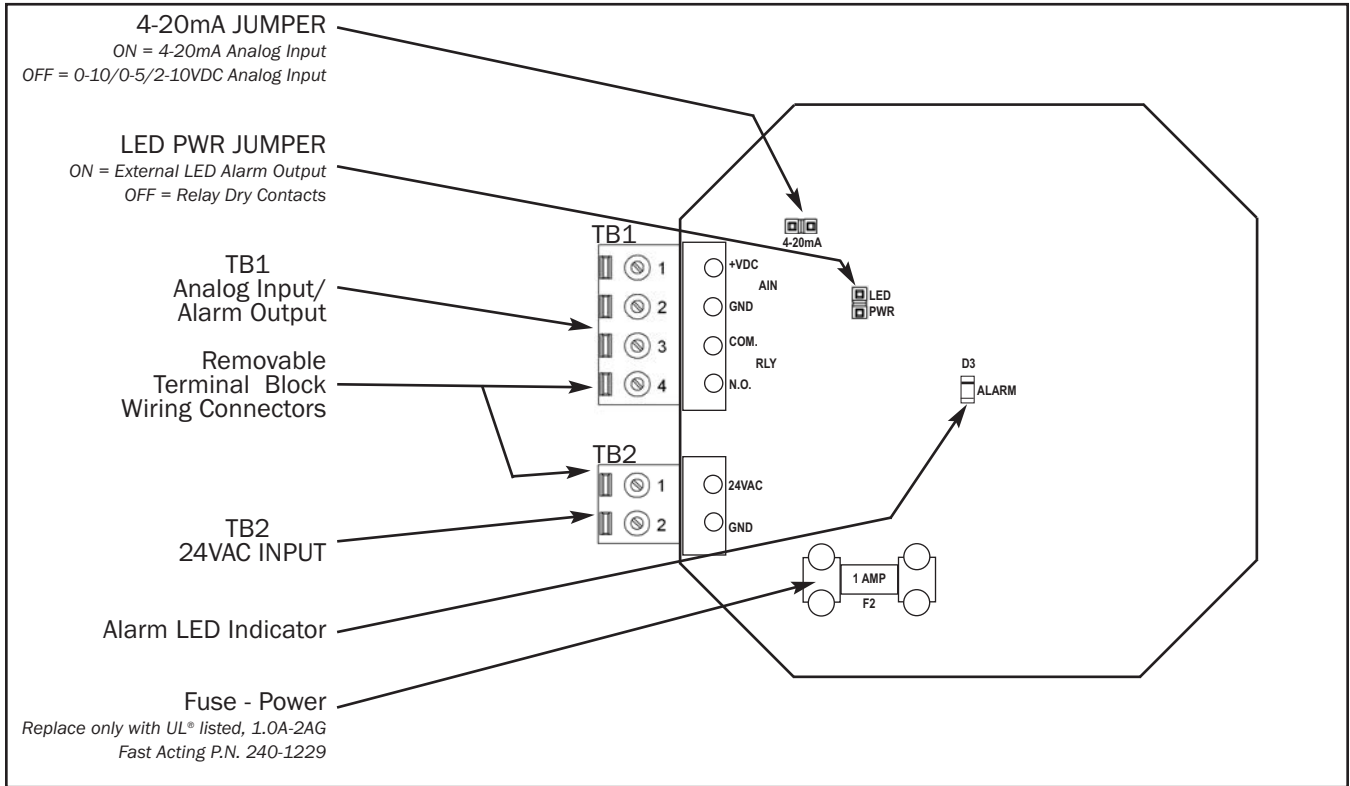

Figure 2. ALRT-100 Main Circuit Board Detail
ALRT-100 wiring consists of connecting 24VAC input power and the optional alarm output at the ALRT-100. Refer to Figures 2 and 3 for additional detail. Following installation, review the ALRT-100 START UP Procedure. Wiring connections are accomplished at two removable screw-type terminal block connectors at TB1 and TB2 on the left side of the instrument as shown in Figure 2. The connectors are keyed to prevent improper hookup to the instrument.
2. Connect 24 VAC power to TB2 terminal 1, and the 24V ground to TB2 terminal 2 as shown in Figures 2 and 3, observing the following wiring precautions.
2. Connect the analog input signal wire at TB1-1, and the signal ground at TB1-2 as shown in Figures 2 and 3 while observing the previous wiring precautions.
1. Remove the four cover retaining screws at each corner of the transmitter cover as shown in Figure 2.
In addition to the front panel LED alarm indicator, the ALRT-100 can be configured to provide an alarm output as relay dry contacts, or as direct drive (15 mA typical) for an external LED indicator. The alarm output type is set using the LED PWR jumper on the ALRT-100 main circuit board as shown in Figure 2. With the LED PWR jumper on, the alarm output is set to produce LED drive of 15 mA (typical) to an external LED at TB1 terminal 4, with the LED cathode return at TB2-2. With the LED PWR jumper OFF, the alarm output is configured as dry relay contacts (normally open) to close on alarm between TB1-3 and TB1-4. Contacts are rated at 30VDC/24VAC 3 amps maximum.